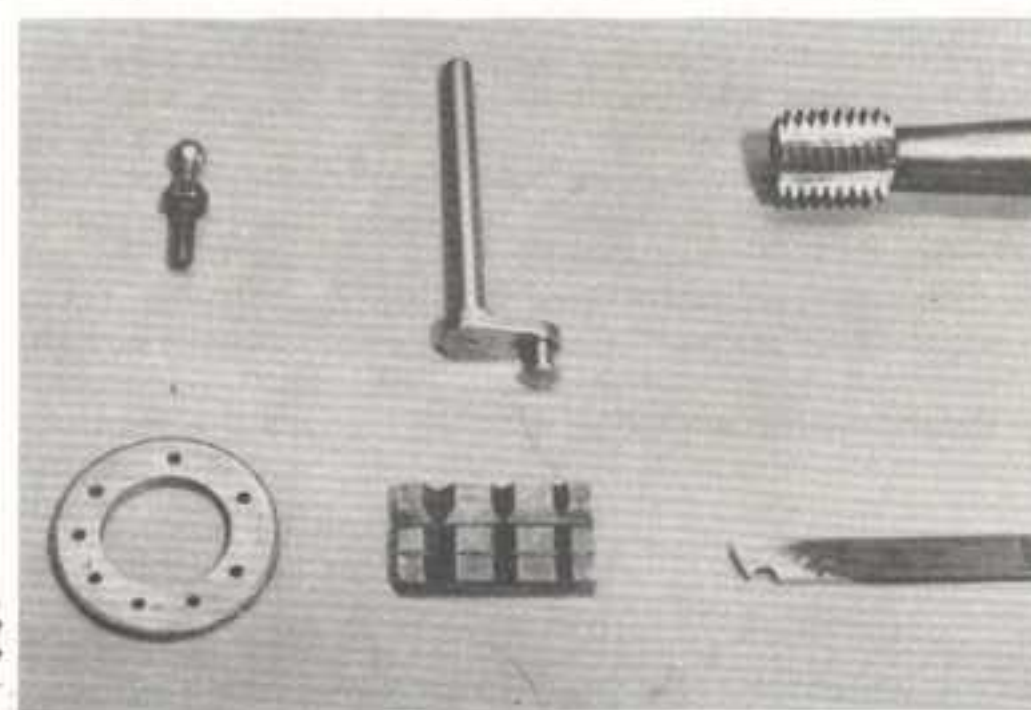

Fig. 39 Casehardening. L to R, top. Pivot pin; engine crank; large special tap. Bottom; drilling jig; jaw for machine vice; special form tool.
**Examples.** Fig. 39 shows a few examples. Top left is a ball-joint made to replace the carburettor control on an ancient motor-car. Bright drawn hexagon bar was used and finish machined completely before hardening. The thread was protected with thin iron wire and whitening, and only the ball end was dipped in Kasenit No. 1. It was quenched direct after the second application. Centre top is the crankshaft for a model steam engine (the "Williamson") with a hardened crankpin. In this case the bearing surface was finished to dimension, but the stem which fits into the web was left 1/32 inch oversize. The workpiece was not parted off from the stock at this stage. The bearing was given the Kasenit treatment twice, being dipped into the compound only sufficiently to cover it. After cooling slowly the rest of the machining was com-